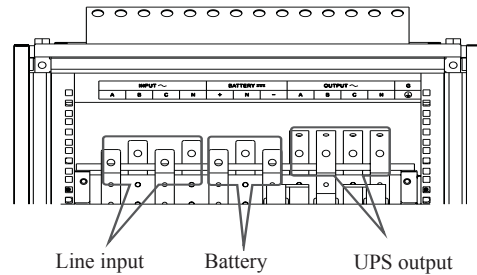

Fig. 5-7
- 2) Connect the UPS input, output and battery wires to the corresponding copper bars frontally through the wire cushion rubbers on the top cover according to the marks (the copper bar marks are shown as Fig. 5-7).